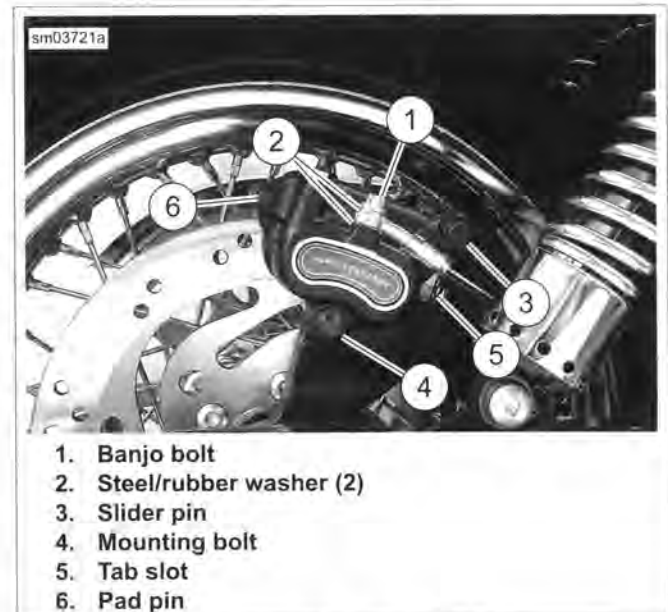

Figure 1-32. Rear Caliper
- See Figure 1-32. Loosen, but do not remove pad pin (metric) (6).
- Remove mounting bolt (4) and slider pin (3). Pull rear caliper away from brake disc.